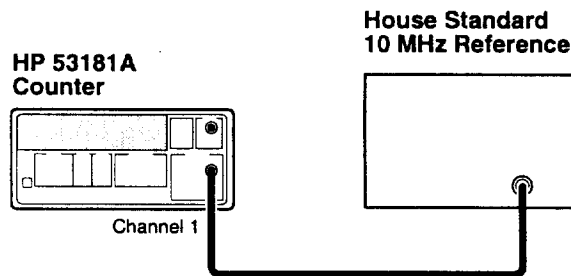

Figure 2-7. Standard Timebase Calibration Setup
- 1 Connect the output of a 10 MHz house standard to Channel 1 of the Counter as shown in Figure 2-7.**
- 1 Connect the output of a 10 MHz house standard to Channel 1 of the Counter as shown in Figure 2-7.